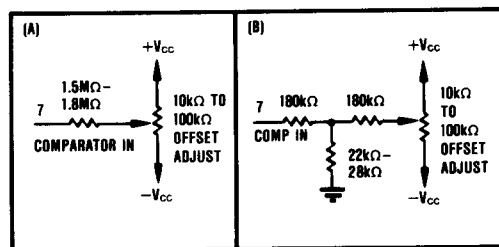

FIGURE 5. Two Methods of Connecting Optional Offset Adjust.
Gain and offset errors may be trimmed to zero using external offset and gain trim potentiometers connected to the ADC804 as shown in Figures 5 and 6 for both unipolar and bipolar operation. Multiturn potentiometers with 100ppm/°C or better TCR are recommended for minimum drift over temperature and time. These potentiometers may be of any value between 10kΩ and 100kΩ. All fixed resistors should be 20% carbon or better. Although not necessary in some applications, pin 12 (Gain Adjust) should be preferably bypassed with a 0.01μF nonpolarized capacitor to analog common to minimize noise pickup at this high impedance point, even if no external adjustment is required.
**OFFSET**—Connect the offset potentiometer as shown in Figure 5. Set the input voltage to the nominal zero or minus full-scale voltage plus 1/2LSB. For example, referring to Table I, this value is  $-10\text{V} + 2.44\text{mV}$  or  $-9.99756\text{V}$  for the  $-10\text{V}$  to  $+10\text{V}$  range.